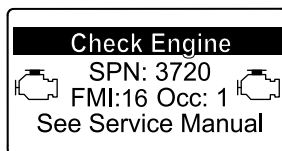

Figure 18
- Engine warning SPN 3720, FMI 16 (Figure 18)